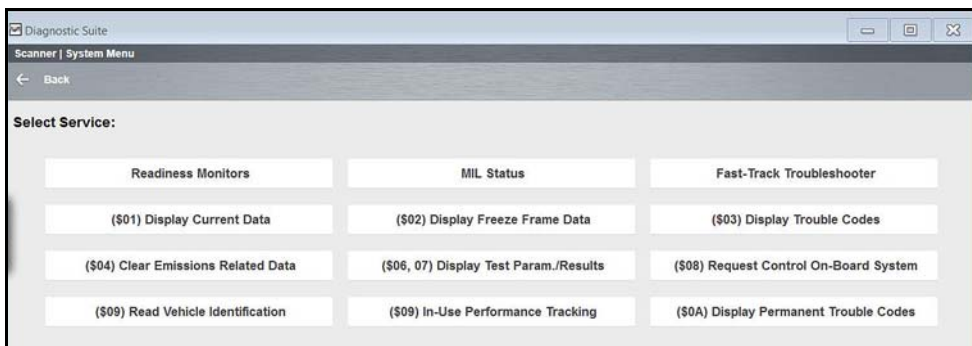

Figure 7-2
5. Make a selection from the available service menu options (Figure 7-2).